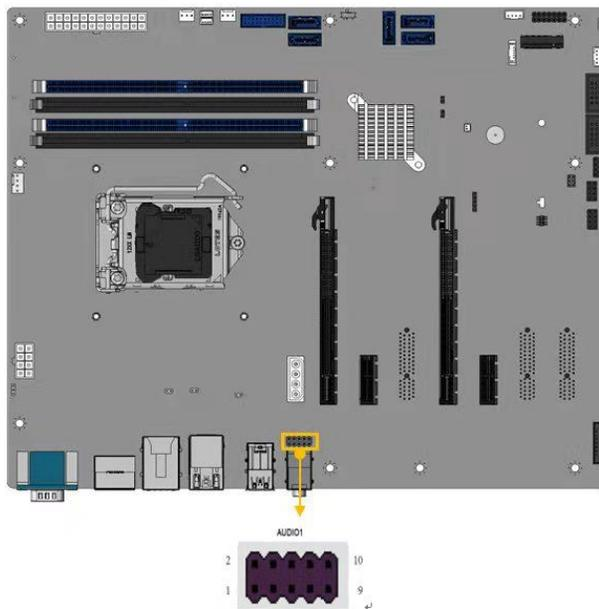

Figure 3-13: AUDIO1 Location
- CN Location:** See Figure 3-13